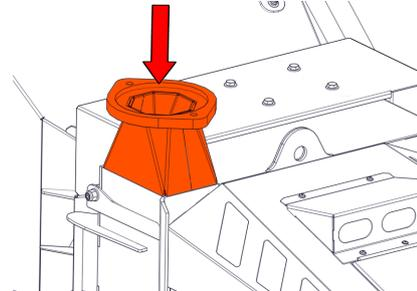

Figure 26 - Discharge flange - tube removed
3. Remove all traces of old grease and dirt from the discharge tube flange and the mounting flange (Figure 26).